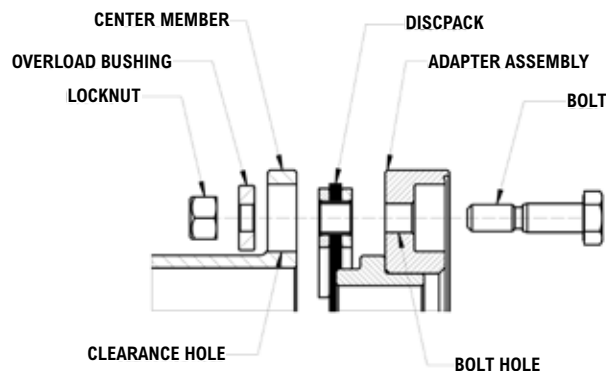

Figure 11C – Disc Pack Bolt Configuration if adapter
- 9.3 Install the disc packs to the adapter first so that the washer heads of the disc pack line up with the bolt holes in the adapter as shown in Figure 11C. Insert the bolts through the adapter bolt holes and disc pack. Match marks (if applied at assembly balance) must be in-line to maintain balance.